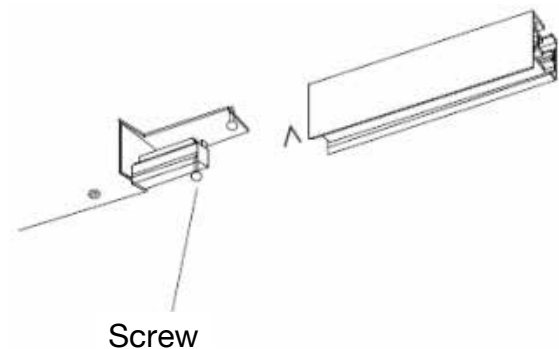

Fig. 3
- 5) Replace plastic and metal covers. Connect the power feed with the track as in figure 3.